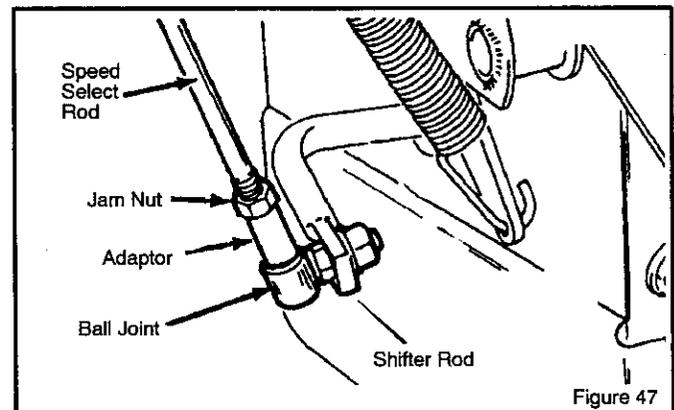

Figure 47
2. Loosen hex **jam nut** on **speed select rod**. Remove **ball joint** from **shifter bracket** (see Figure 47).
4. Turn the **adaptor** until the **ball joint** is aligned with the mounting hole in the **shifter rod** (see Figure 47). When aligned, attach the **ball joint** to the **shifter rod**.